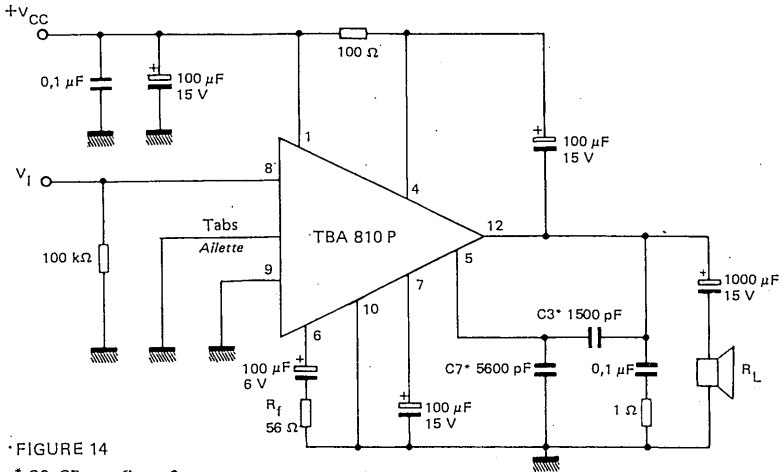

FIGURE 14
Mesuré dans les conditions de la figure 14
Note 1 : The characteristics above were obtained using the circuit shown in figure 14
*Mesuré dans les conditions de la figure 14*